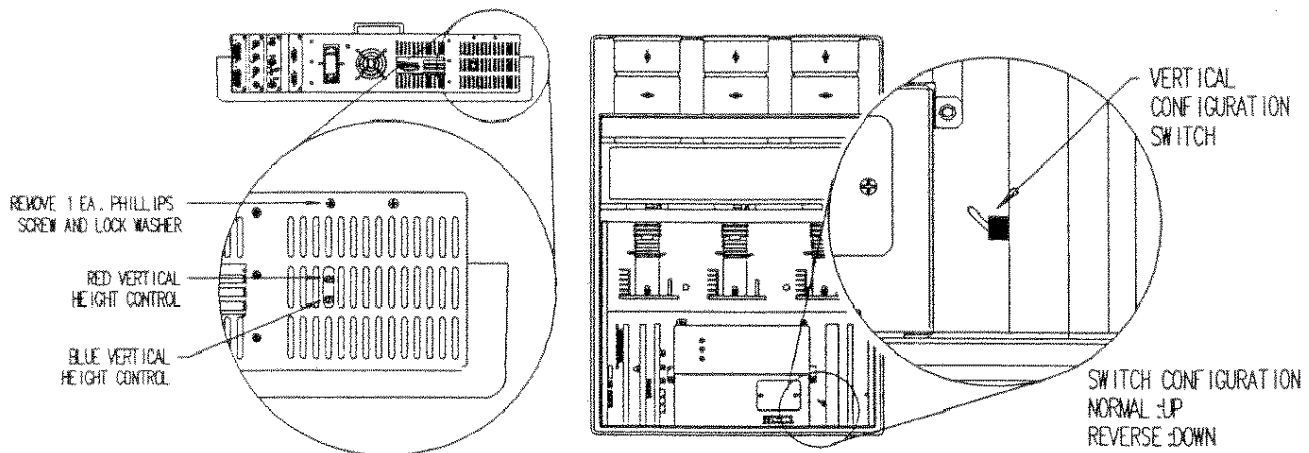

FIGURE 3-20. VERT. DEFLECTION MODULE REPLACEMENT.
- STEP 3. Remove the single 4-40 phillips screw and lock washers from the Vertical Deflection module (third module from the right, as viewed from the rear) and lift this module out of the main chassis. Refer to Figure 3-20
- NOTE: Verify the position of the Vertical Configuration Switch. Ensure the switch is in it's proper position for your particular projection configuration. Refer to figure 3-20.
- STEP 5. Using Green as your reference color, adjust the Red vertical height control (Figure 3-20) to overlay or equal (but opposite) the error from top to bottom, concentrating on the top and bottom horizontal lines.
- STEP 6. Using either Red or Green as your reference color, adjust the Blue vertical height control (Figure 3-20) in the same manner as described in Step 5.